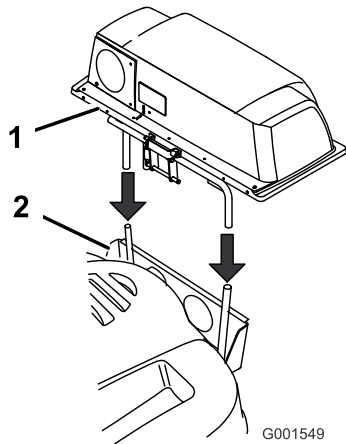

Figure 7
1. Carefully lift the bagger top and slide it onto the quick attach bracket (Figure 7). The bagger top is easier to install if two people work together.